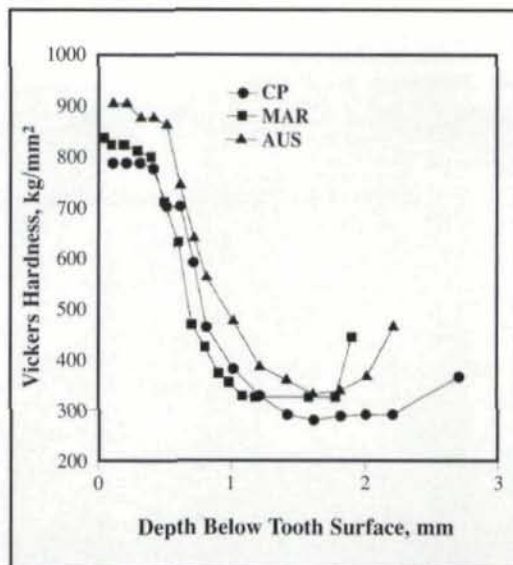

Fig. 2 — Surface hardness profiles in gear teeth as they depend on processing.
The gear in question was a helical automotive transmission gear: it had a diametral pitch of 13.0, a helical angle of 27° and 59 teeth. The gear surface had been carburized to 1.0% carbon to an effective case depth of 0.027 inches, wherein the "effective case depth" is defined as the distance from the surface where the as-marquenched Rockwell hardness falls off to RCH = 50. AISI 4023 has an  $M_s$  temperature of 163°C, well below the processing environment of 232°C. Three types of processing were studied for this gear: 1) a conventionally processed gear (CP), wholly austenitized, quenched, tempered and surface ground; 2) a re-austenitized unground (hereafter denoted AUS) replica, induction heated to 925°C, quenched to 232°C, ausrolled, quenched to room temperature and tempered; 3) a re-austenitized unground replica (hereafter denoted MAR), induction heated to 925°C, marquenched to 232°C, maintained isothermally for a time increment equivalent to the ausroll process (20 s), quenched to room temperature and tempered. Fig. 2 compares the hardness profiles obtained by indenting along the tooth pitch line in the center of a sectioned tooth. Note that both reprocessed gears exhibit higher hardnesses in the near-surface regions, which must bear the maximum Hertzian contact stresses; the marquenched sample's increase over the conventionally processed gear may be because of the unground state of its tooth surface. The ausroll finished gear can be seen to have gained a full VHN 100, a notable 12% increase, and a possible strength increase of the order of 50 ksi at those hardness levels.